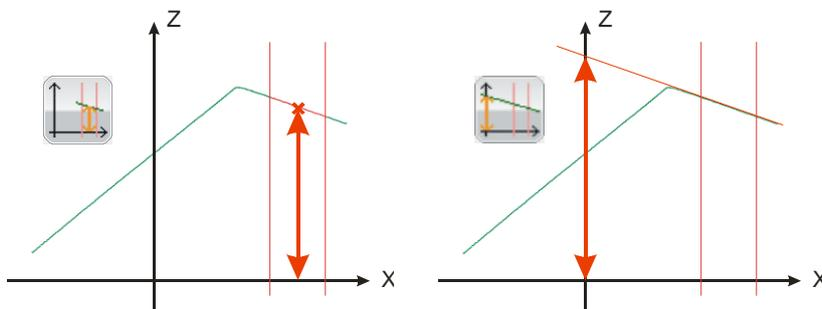
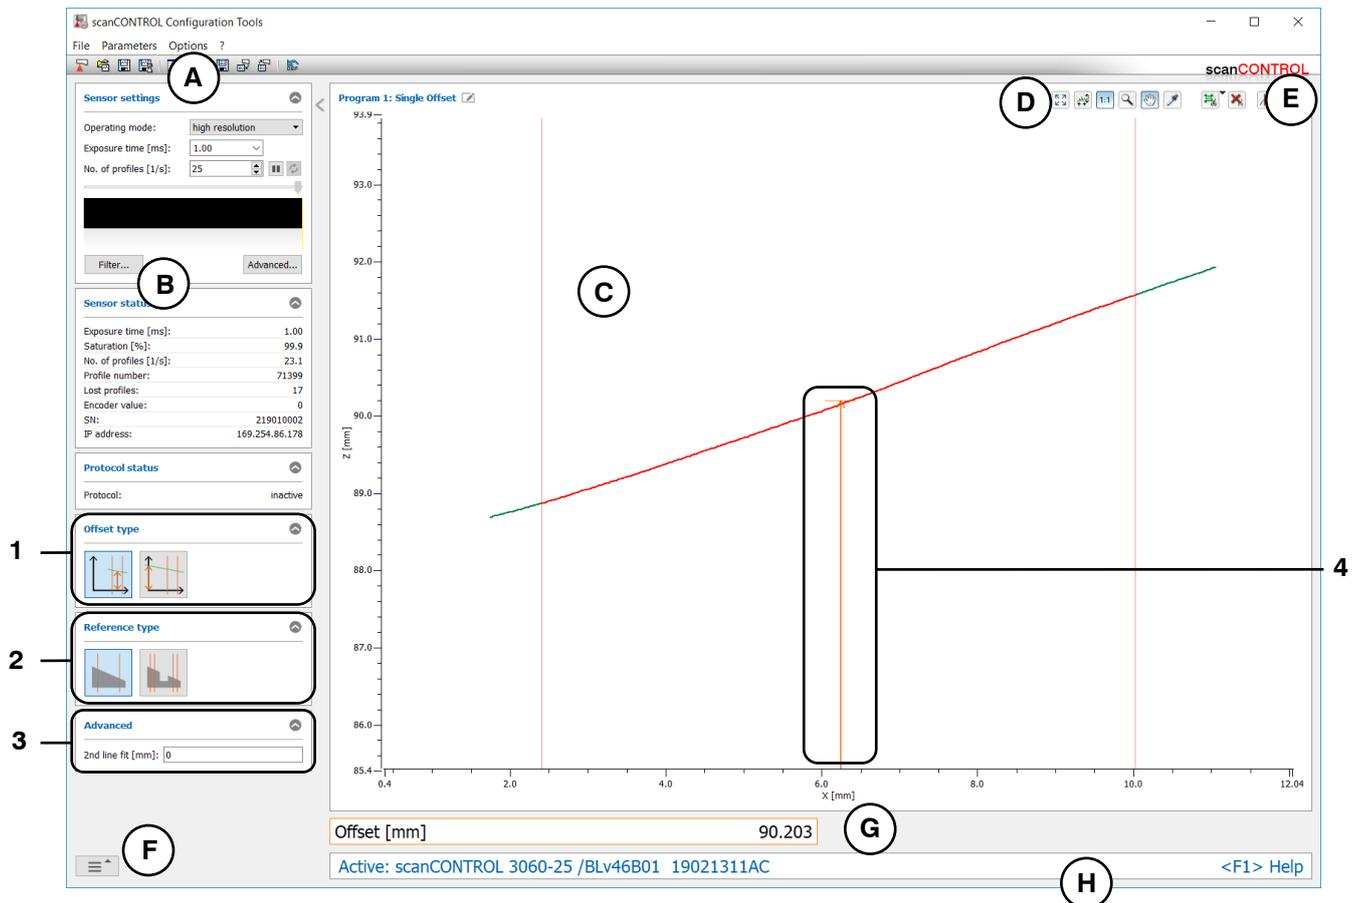

Fig. 4.13: Algorithms for the offset calculation
Fig. 4.14: "Single Offset" measuring program
- Define the algorithm for the calculation of the offset (see Fig. 4.13, Fig. 4.14 and Chapter 3.13.1):
- Select the type of line fitting (see Fig. 4.14 and Chapter 3.13.1)
- 1 **Offset type:** Select the algorithm for the calculation of the offset in this input field (see Fig. 4.13).
- Define the algorithm for the calculation of both offsets (see Fig. 4.13, Chapter 4.3.1 and Chapter 3.13.1):